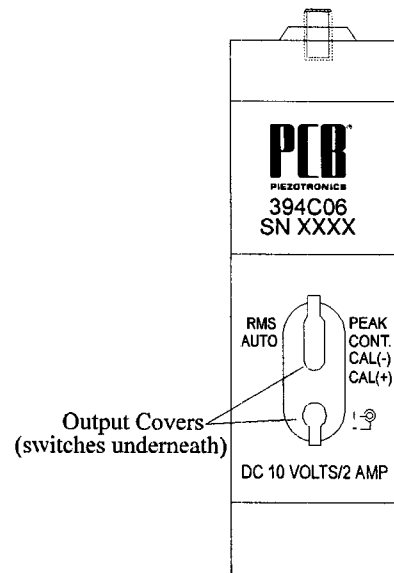

Figure 4. Handheld Shaker Calibration Check Points
The Model 394C06 permits accurate adjustment of measuring instrumentation to indicate a standard acceleration level of 1g RMS or 1 g peak, adjusting the system for correct measurement. The reference signal may also be used for velocity and displacement, at 10  $\text{mms}^{-1}$  RMS or 10  $\text{mms}^{-1}$  peak and 10  $\mu\text{m}$  RMS or 10  $\mu\text{m}$  peak-to-peak, respectively. To change between RMS and peak, depress the corresponding side of the rocker switch in the options cavity of the shaker. For example, to choose RMS, depress the left side of the rocker switch (see Figure 4).
life of the batteries, the Model 394A06 automatically switches off after 90 seconds. With new batteries, 80 sensitivity checks with maximum load are possible. To change between auto shutoff and continuous run, depress the corresponding side of the rocker switch in the options cavity of the shaker. For example to choose auto shutoff, depress the left side of the rocker switch (see Figure 4).
- Calibration check points. Calibration of the internal feedback circuit can be verified via test points (located in the options access pocket). See Figure 4.